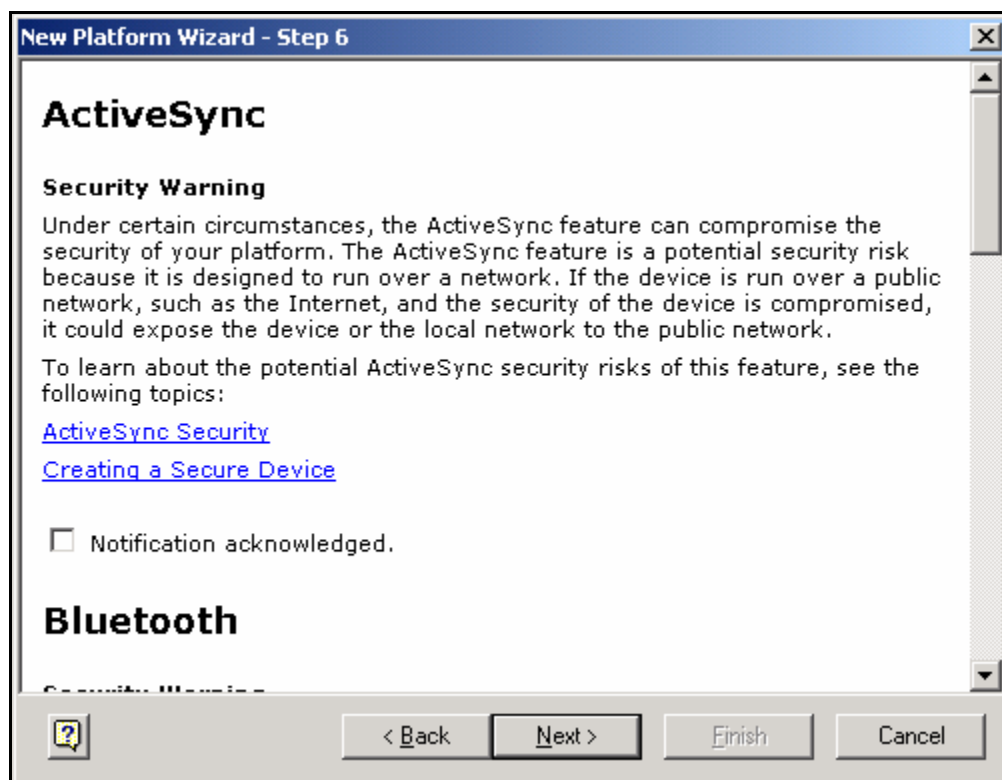

Figure 2-7 New Platform Wizard - Step6
7. The ActiveSync wizard window will appear on your screen as shown below in the figure 2-7. Please read the security warning and then click on the 'Next' button to continue.